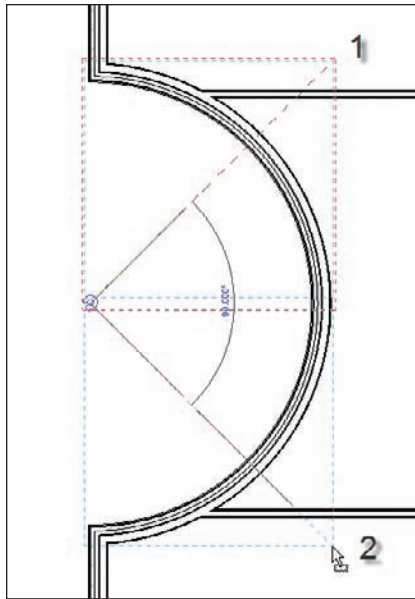

FIGURE 4.14 Specifying the two angles for the Radial array
10. Move your cursor down until you see 90°. Then, pick the second point (see Figure 4.14).